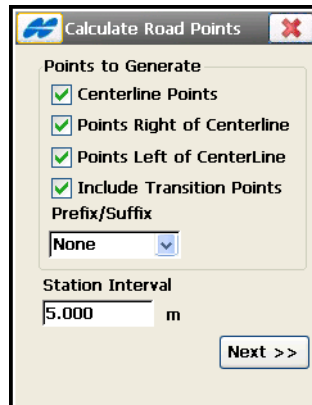

Figure 7-4. Calculate Road Points
- On the *Calculate Road Points* screen, select the desired road point types (Figure 7-4 on page 7-4). If needed, change the station interval and tap **Next** to set the properties of the generated points in corresponding screens. In the last screen, opened by the **Next** button, tap the **Calc** button to perform calculations.